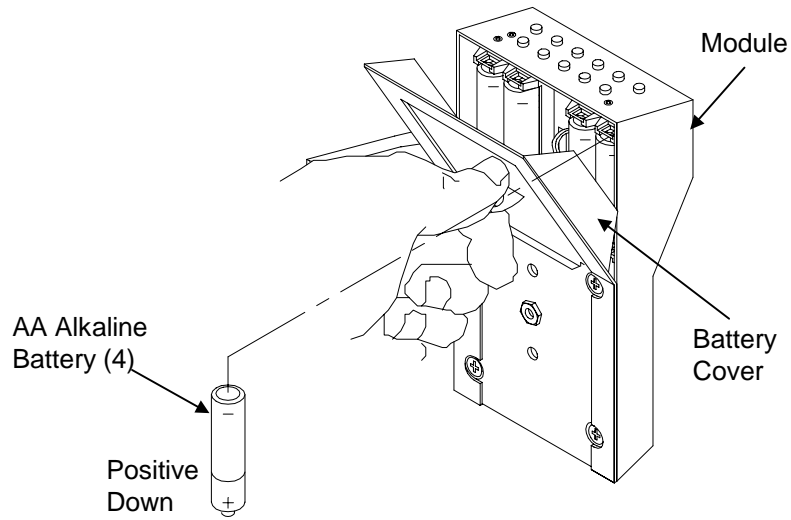

Figure 9 Battery Replacement
- Step 4 Using the tab on the Battery Cover, carefully pull the Battery Cover away from the Housing to expose the Batteries (Figure 9)